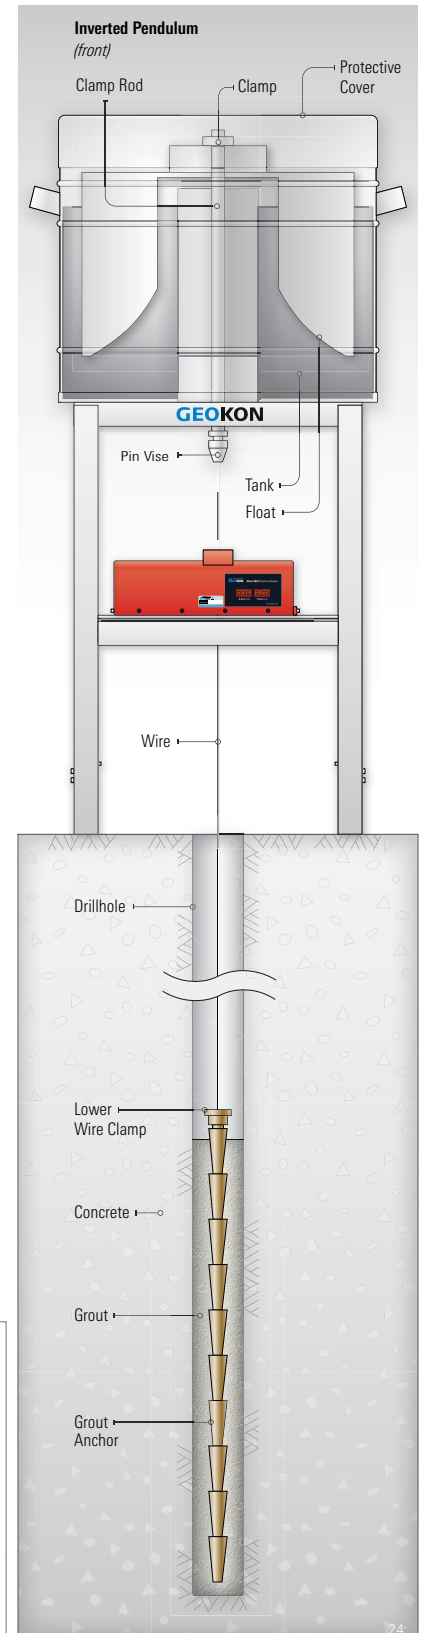

FIGURE 24: Inverted Pendulum System
24. Lower the readout onto the table so that Velcro strips on the bottom of the cabinet contact the ones on the mounting surface. Figure 24 depicts the assembly thus far.